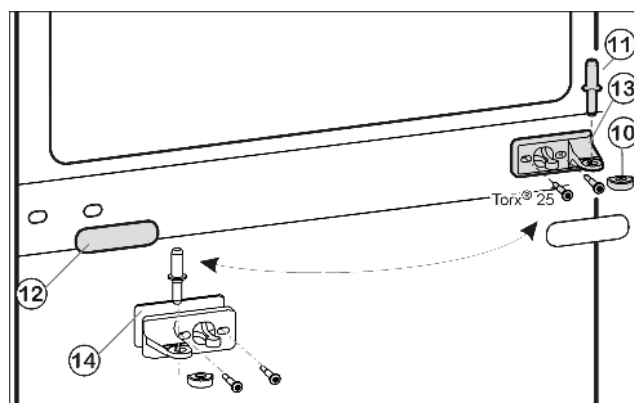
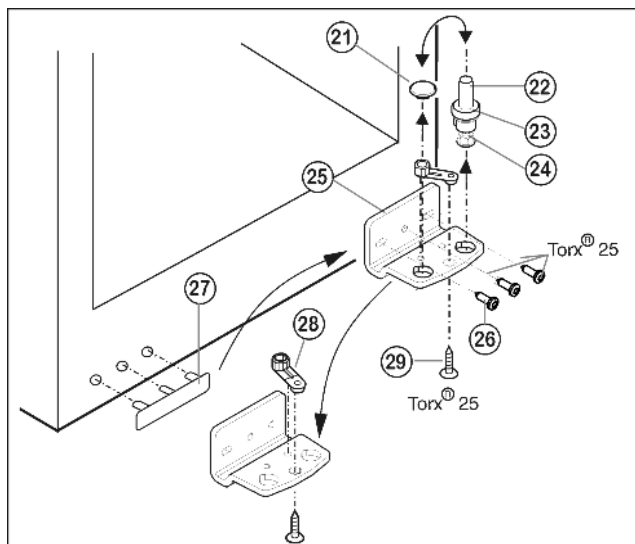

Fig. 5
Fig. 6
- Draw the middle bearing pin Fig. 5 (11) out of the turn hinge and lower door.
- Remove the plastic cap Fig. 5 (10).
- Unscrew the middle turn hinge (2x Torx® 25). Fig. 5 (13)
- Carefully detach the cover panel Fig. 5 (12).
- Turn the middle turn hinge Fig. 5 (13) with the washer Fig. 5 (14) through 180° and screw it firmly into place on the new hinge side (**with 4 Nm**).
- Turn the cover panel Fig. 5 (12) through 180° and snap it into place again on the new handle side.
- ▶ Lift out the bearing pin Fig. 6 (22) together with washer Fig. 6 (23) and foot Fig. 6 (24).
- ▶ Lift off the stopper Fig. 6 (21).
- ▶ Unscrew Fig. 6 (26) the turn hinge Fig. 6 (25).
- ▶ Unscrew Fig. 6 (29) the bearing element Fig. 6 (28), transfer it to the opposite location hole of the turn hinge and screw it firmly into place.
- ▶ Carefully lift off the cover on the handle side Fig. 6 (27) and transfer it to the opposite side.
- ▶ Screw the turn hinge Fig. 6 (25) firmly into place on the new hinge side, possibly using a cordless screwdriver (**with 4 Nm**).
- ▶ Re-insert the stopper Fig. 6 (21) into the other hole.
- ▶ Re-insert the bearing pin Fig. 6 (22) together with washer and foot. In so doing, pay attention that the locating lug points backwards
- ▶ Place the lower door from above onto the lower bearing pin Fig. 6 (22).
- ▶ Place the plastic cap Fig. 5 (10) back onto the middle turn hinge Fig. 5 (13).
- ▶ Place the middle bearing pin Fig. 5 (11) in the lower door, on the new hinge side, through the middle turn hinge Fig. 5 (13).
- ▶ Place the upper door on the middle bearing pin Fig. 5 (11).
- ▶ If necessary, align the doors to the appliance housing by way of the two oblong holes in the bottom turn hinge Fig. 6 (25) and middle turn hinge Fig. 5 (13). To do so, unscrew the middle screw in the bottom turn hinge Fig. 6 (25).